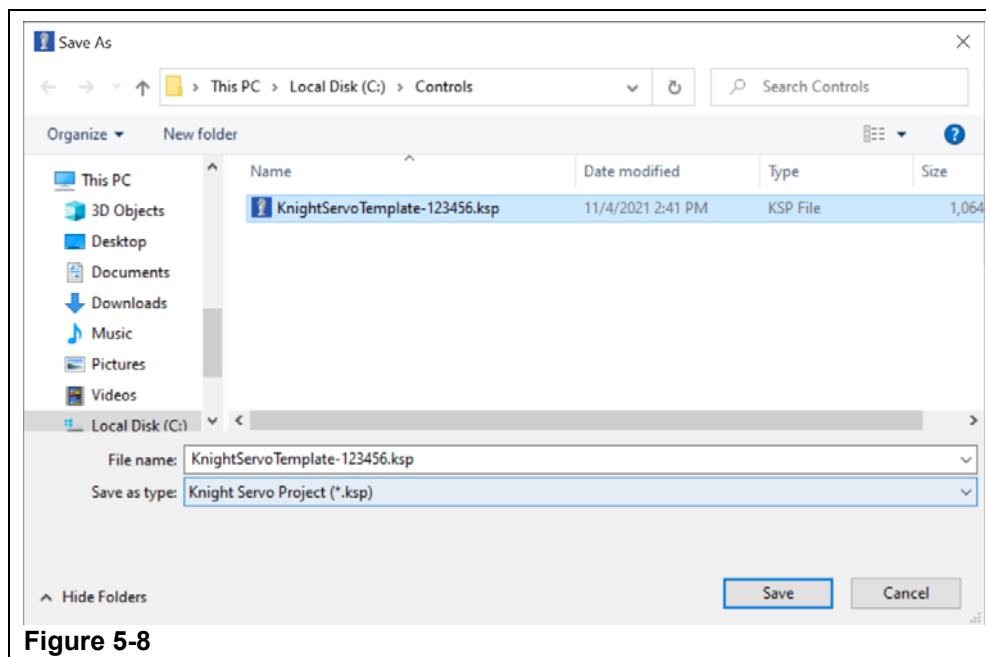

Figure 5-8
- Step 2. Select a folder where to save the backup copy of the file. Ensure the Knight Work Order and System number is included in the filename. (Refer to Figure 5-8)